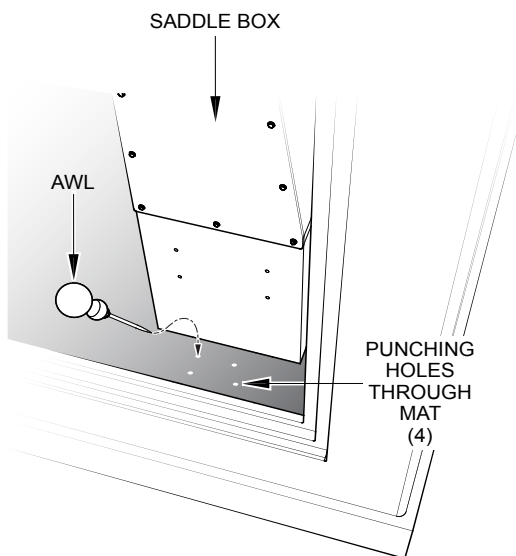

Figure 6. Mat Bolt Hole Opening
3. Feeling through the mat, locate the threaded mounting holes. Use an awl (Figure 6) and punch four holes through the mat so that the 4 mounting bolts can fit through the mat.